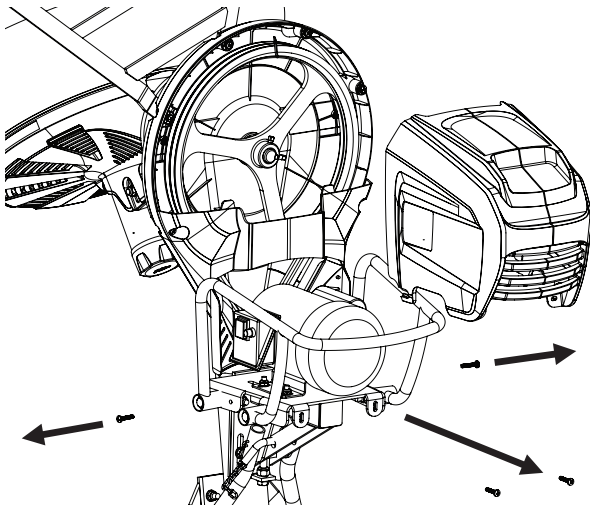

FIGURE 10
- a) Remove the motor cover. **(Figure 10)**